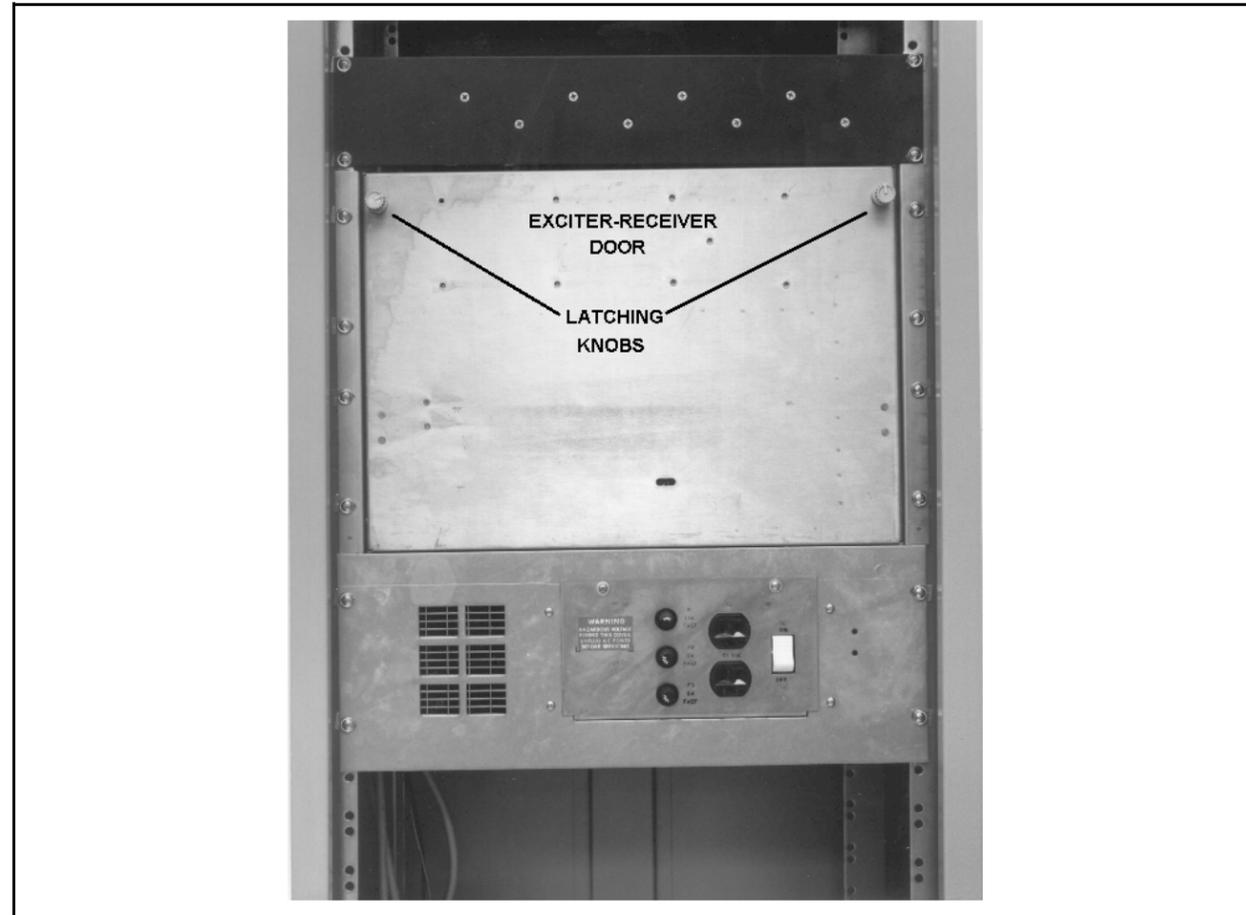

Figure 3 - Latching Knobs Securing Door
1. Turn the two latching knobs shown in Figure 3 counter-clockwise to unlatch the exciter/receiver door.
1. Turn the two latching knobs shown in Figure 3 counter-clockwise to unlatch the exciter/receiver door housing and swing the housing down as shown.